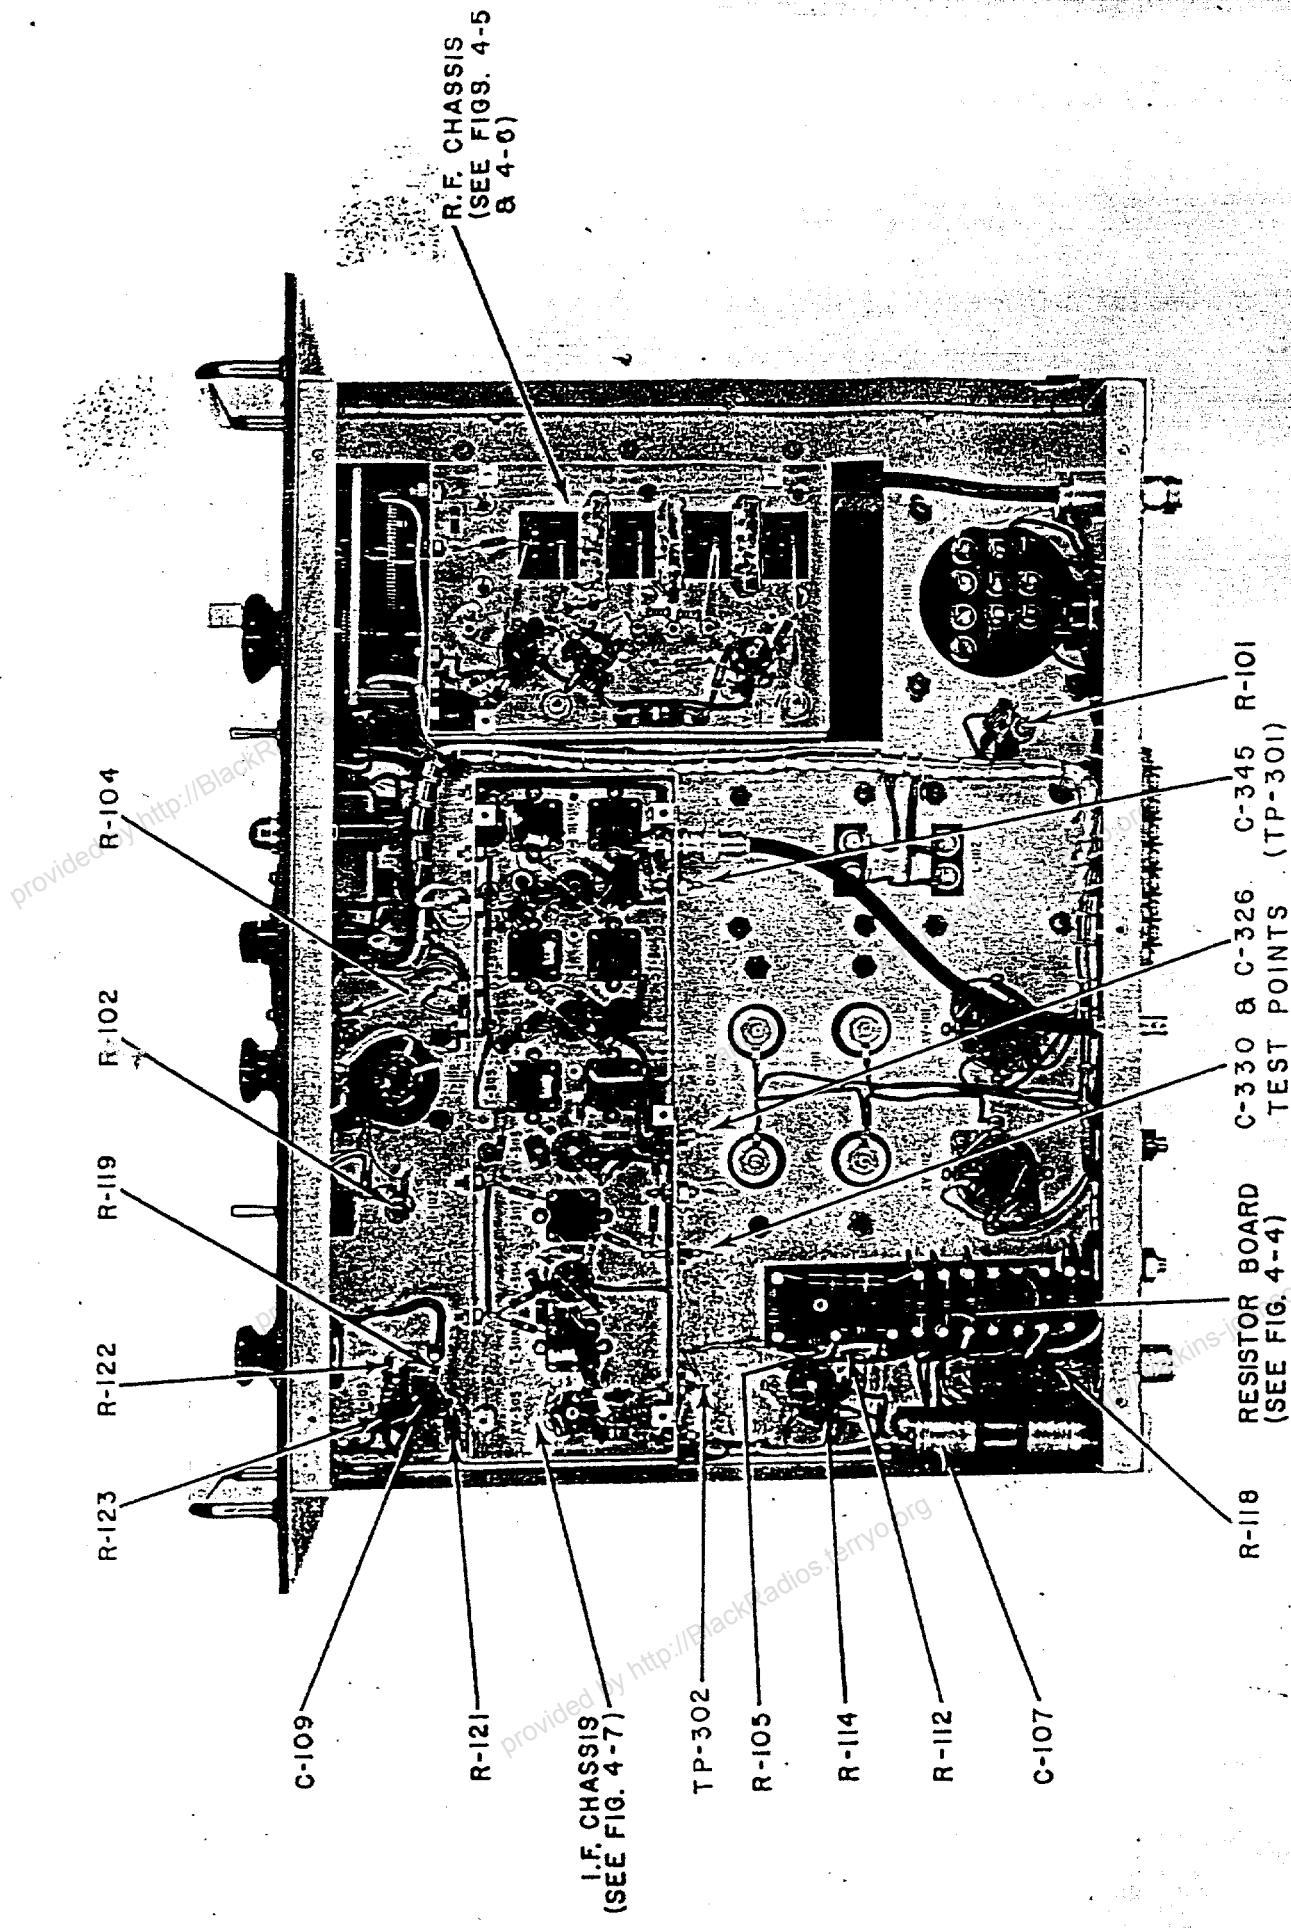

Figure 4. Models 1671-1674 Special Purpose Receivers, Bottom View, Dust Cover Removed.
(3) Alternate between steps (1) and (2) until the stated frequencies are indicated correctly on the dial within  $\pm$  0.2 mc.
(4) If steps 5, b, (1) through (3) above fail to produce the desired results, the inductuner dial adjustment should be checked as follows;
(5) Loosen the Allen set screws of the mechanical stops on the dial shaft back of the gear train. Figure 4.
(6) Rotate the dial to the high frequency end until it is stopped by the inductuner stop mechanism. The triangle marker should be coincident with the hairline. If it is, continue with steps (8) and (9) below. If not, proceed as follows;
(7) Loosen the set screws of the gear on the inductor shaft and reset the dial triangle pointer coincident with the hairline. Tighten the screws.
(8) To set the high-end mechanical stop, turn the dial to the high frequency end until the triangle pointer is coincident with the hairline, then back to the left-hand corner of the triangle, and tighten the set screws.
(9) To set the low-end mechanical stop, turn the dial to the low frequency end until the triangle pointer is coincident with the hairline, then back to the right hand corner of the triangle, and tighten the set screws.